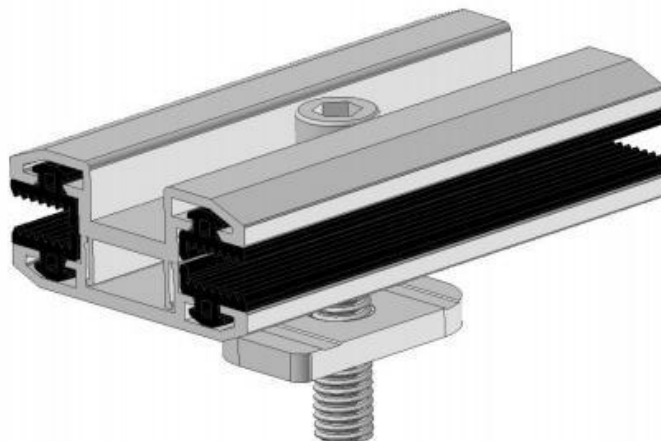

Figure 3 Schematic diagram of the fixture
(1) Fixture specifications: Each fixture must maintain a minimum contact length of 100mm with the component surface and a contact width of 5-12mm on the front side (aiming to avoid obstructing the effective area while ensuring secure fixation), as illustrated in Figure 3.